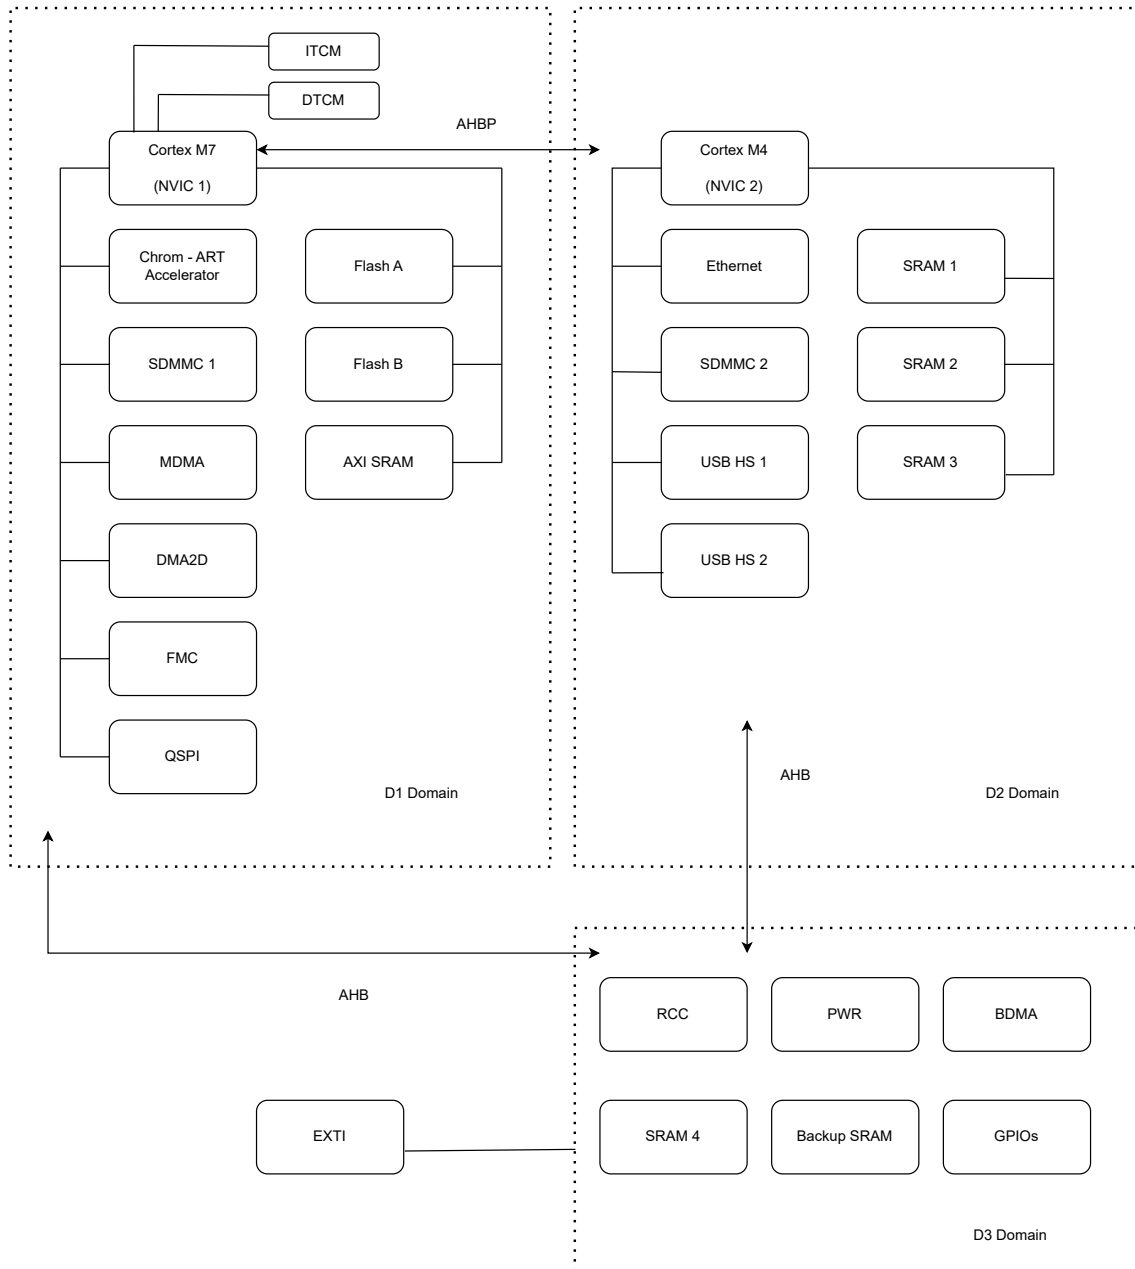

Figure 2.1: STM32 Architecture.
**Important** From figure 2.1, we can see that the EXTIa is outside of the 3 domains. This enables to power down all 3 of these domains at the same time.